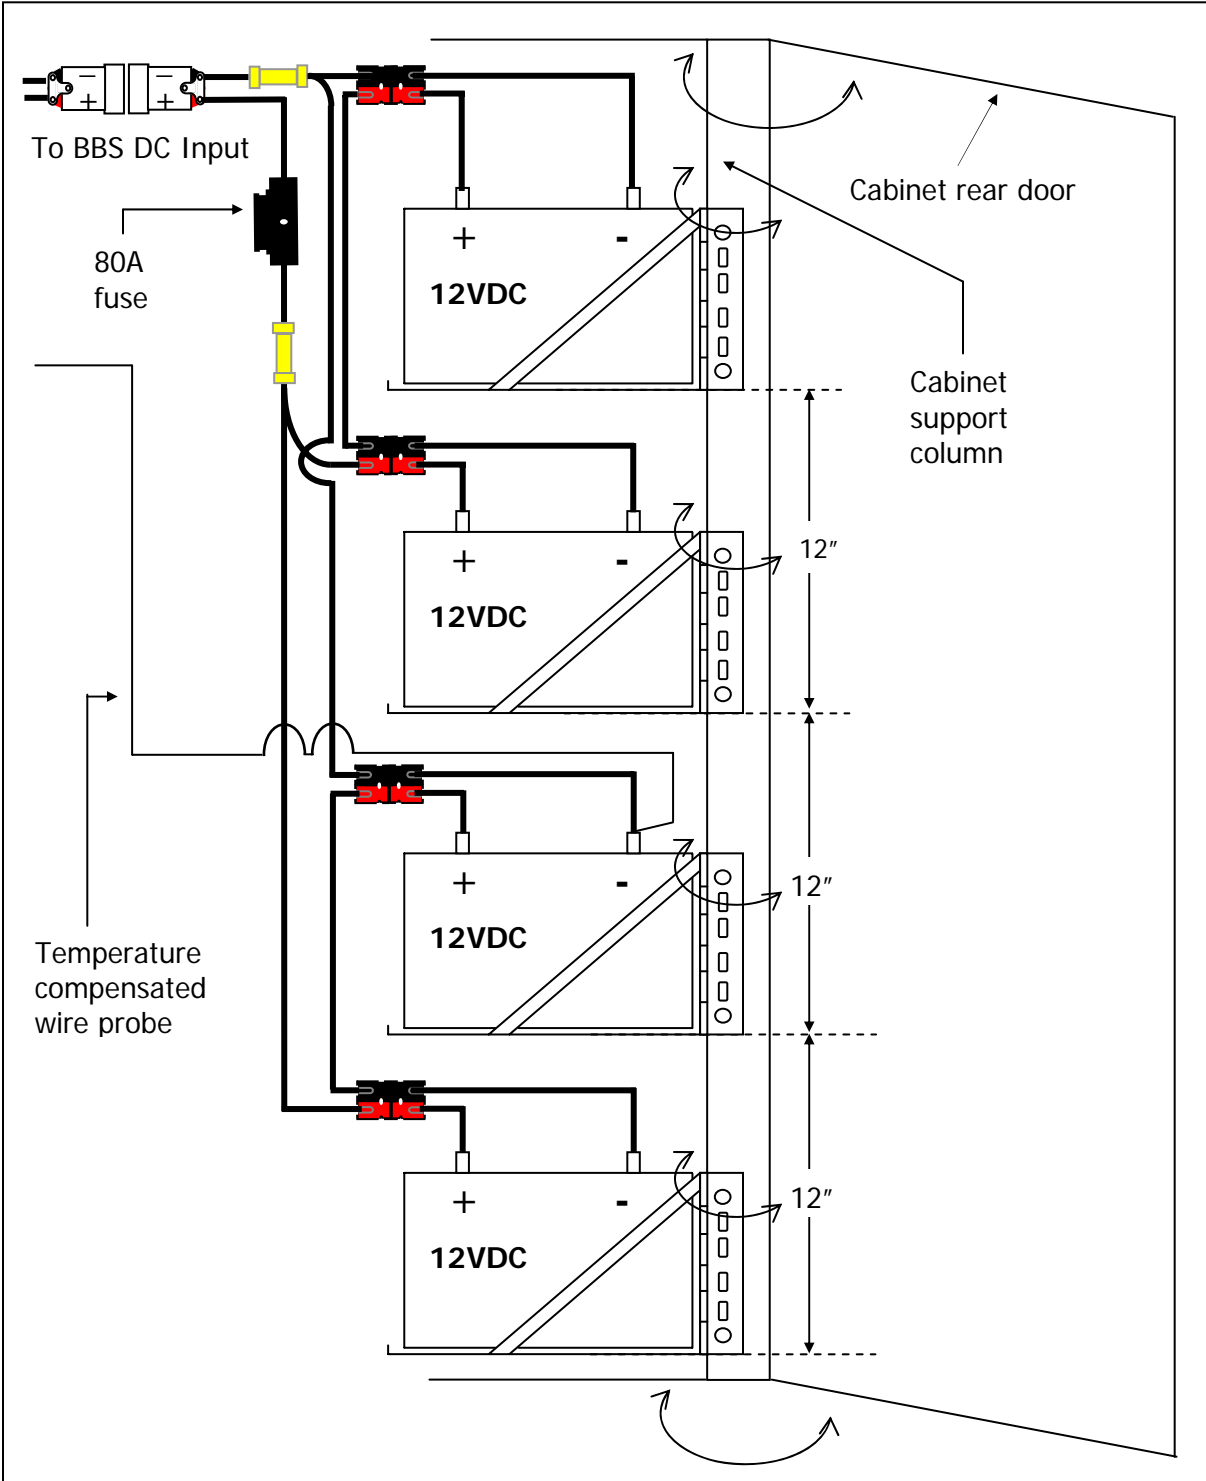

FIGURE 11: Battery wiring configuration
- Using six screws and washers, attach each swing out battery shelf hinge-mounting surface to the front of the vertical cabinet support. Space the swing out battery shelves at 12" from bottom to bottom. See Figure 11, page 14.
NOTE: Connect the 5/16" ring, 2-gauge temperature compensated sense wire probe coming out from the BBS module to the battery return (negative battery bank post). See Figure 11 on page 14 or Figures 28 and 29 on pages 37 and 38 respectively.